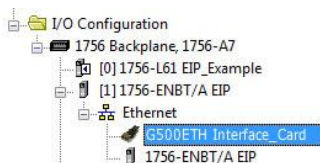

Figure 26: AOP Interface Card I/O Configuration
- 14) You should now see the interface card in the 1756-ENBT/A branch under the I/O Configuration in the controller organizer view. The full I/O Configuration tree should appear similar to Figure 26.